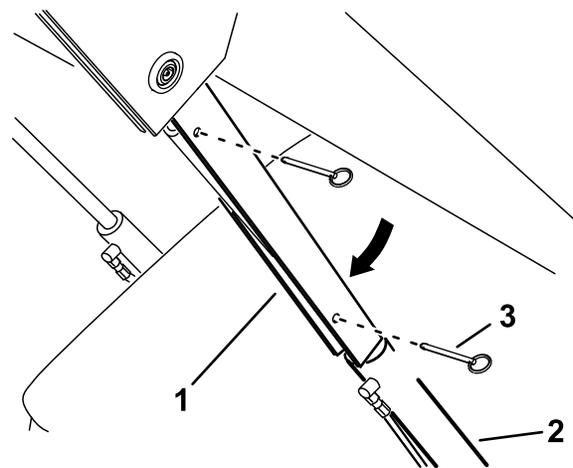

Figure 37
5. Slide the cylinder lock over the lift-cylinder rod (Figure 37).